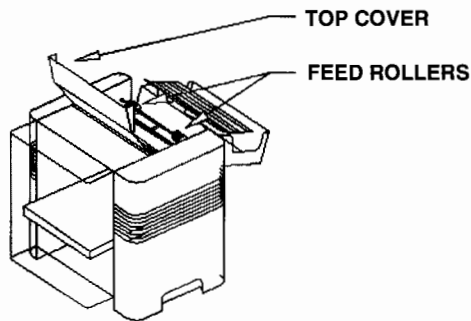

Figure 4-1a. Top Cover and Feed Rollers.
6. Lift the black top cover of the Paper Feeder to expose the unit's feed roller assembly, as shown in figure 4-1a.